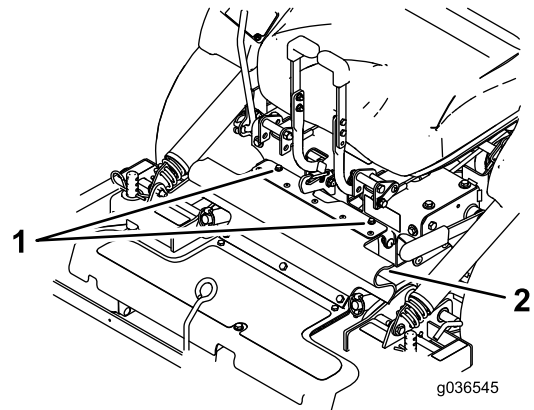

**Figure 79**
7. Remove the lynch pins at the front of the push arms on both sides of the machine (Figure 79).
7. Secure the push arms with the lynch pins on the left and right sides of the machine (Figure 79).